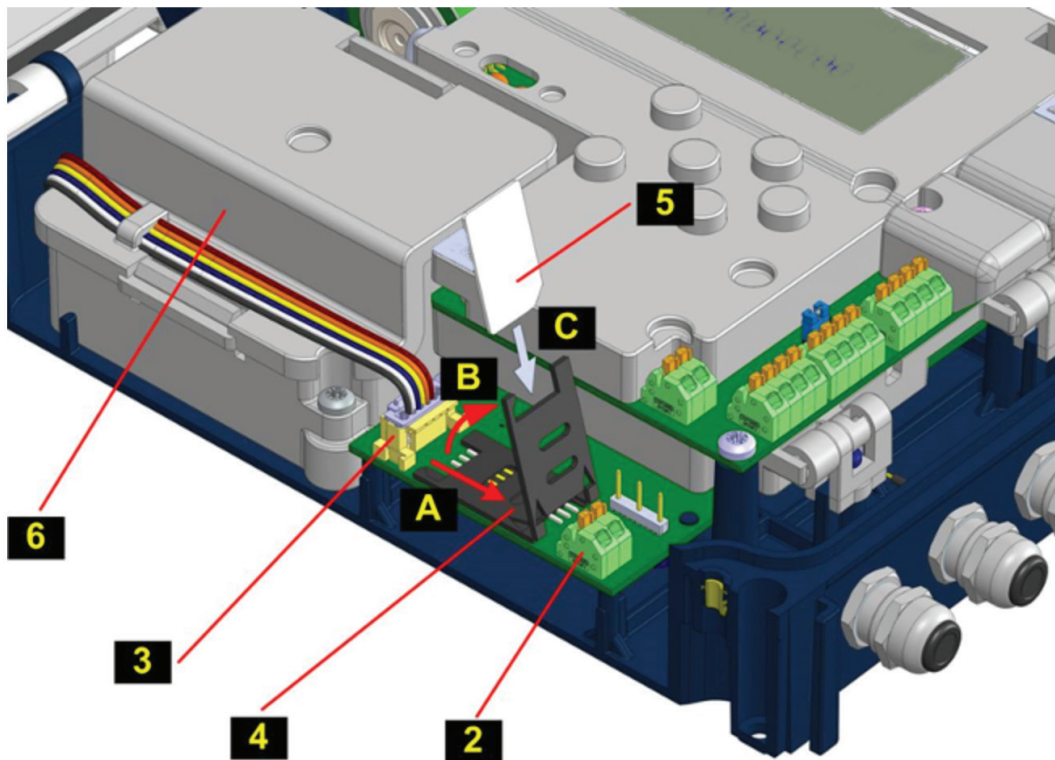

Fig. 36 SIM card in the device
- If there is an external power supply for the modem, disconnect it from the PWR2 terminals **2** - see Fig. 36.
Before inserting the SIM card into the grooves of the holder cover, check the correct **orientation of the SIM card** according to its beveled corner (see Fig. 36). The metal contact surfaces on the SIM card must face the PCB.